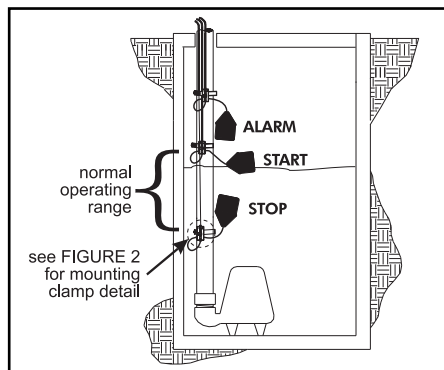

FIGURE 1 - Three float simplex - pump down installation
- Determine your normal operating level, as illustrated in **Figure 1**.